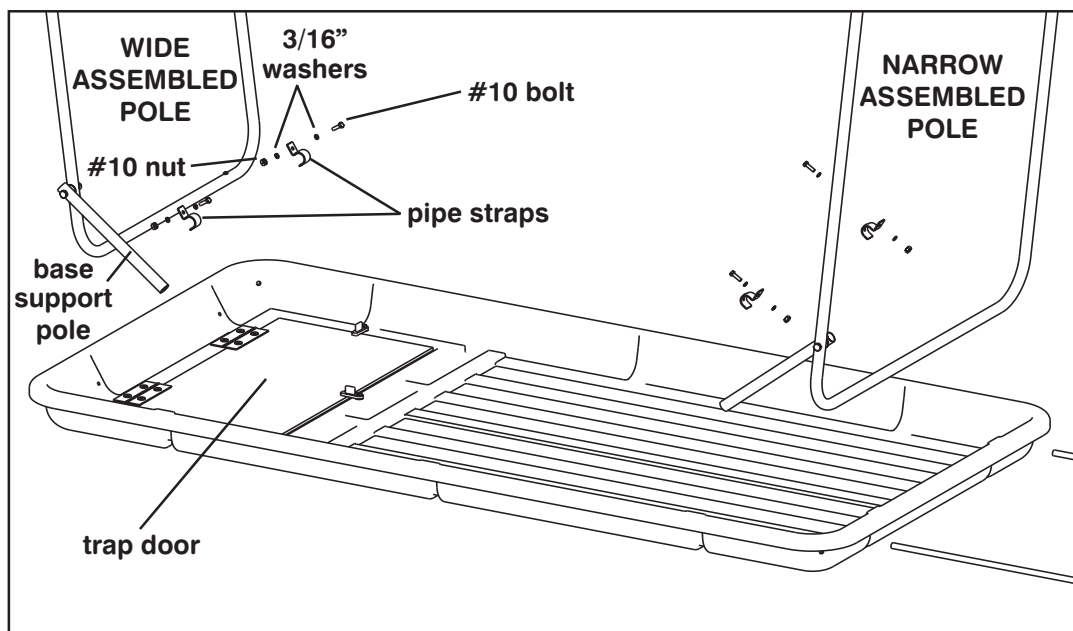

Figure 2
3. Attach the assembled poles to the sled using (4) pipe straps (67119), (4) #10 x 5/8" bolts (69537), (8) washers (67509) & (4) nuts (53606). See Figure 2.
7. Secure all assembled poles by placing both base support poles (69274) in their locking position. See Figure 2.
11. Secure edge trim in place using (4) #6 screws x 3/8" (69629). (2 per side)